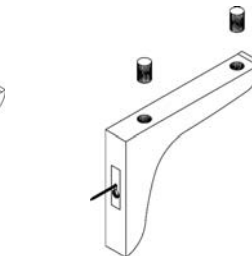

Figure 5
STEP 4: Then insert the 1" Pegs into the Corbels as shown in **Figure 5**.